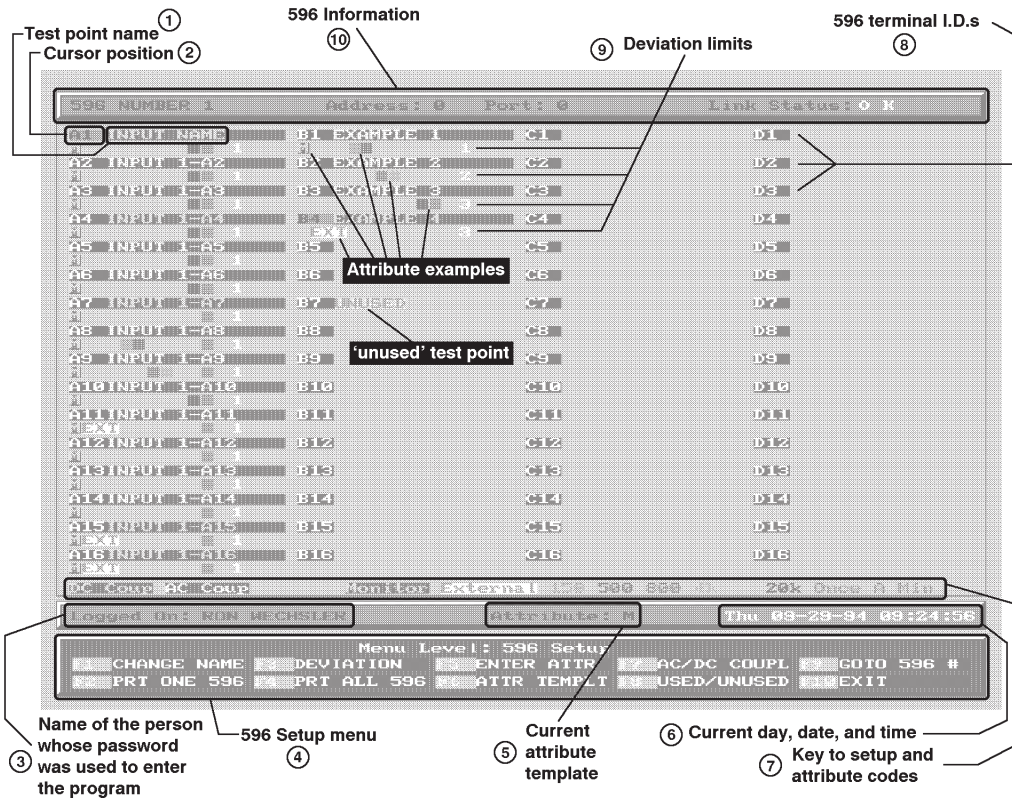

Figure 7 - 596 Setup menu and screen '596 Setup' Function
An explanation of the 596 Setup level screen begins below. Feature numbers correspond to the reference numbers in figure 7.
The 'Enter Attribute' function is used to assign the currently selected Attribute Template to the circuit or test point at the cursor position. The currently selected Attribute Template is displayed in the center of the time bar. See item 5, figure 7. Each time the enter attribute function key is used, the cursor advances to the next test point.
The current attribute template is displayed at the center of the time bar, over the menu. See item 5, figure 7. To change the template, press the 'ATTR TEMPLT' function key. An attribute selection window appears. Use the arrow keys to move the cursor (white background) to the desired attribute, then press 'Enter'. The new attribute replaces the previous one in the time bar, and will be the attribute inserted when the 'Enter Attribute' function is used.